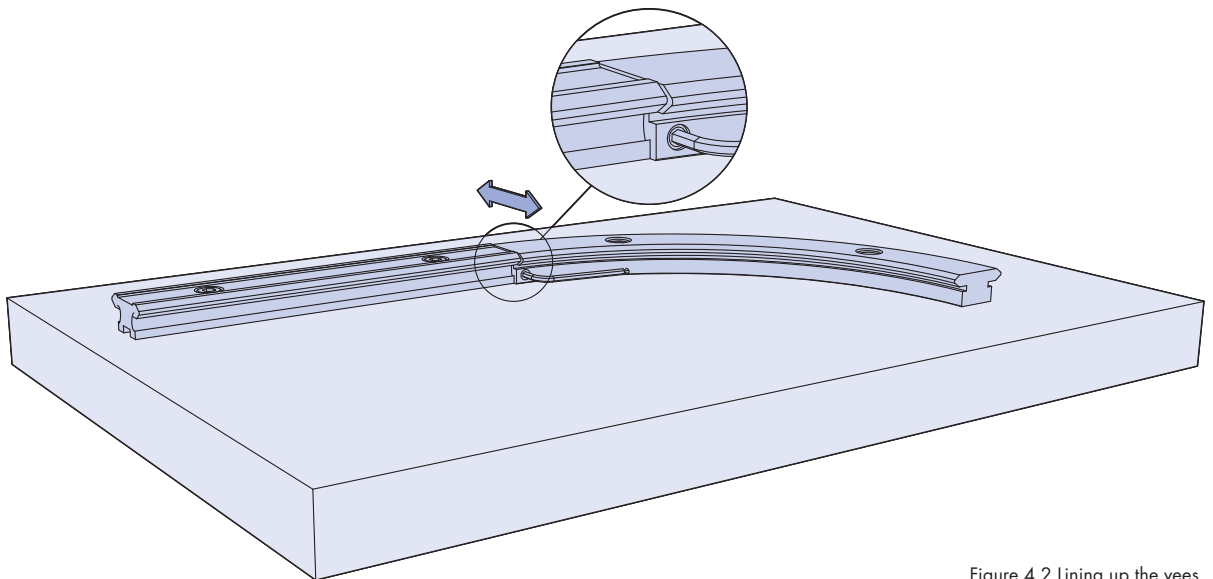

Figure 4.2 Lining up the vees.
4.2 Fine-tune the position of the ring by adjusting the jacking screws to centralise the two components and ensure that the vees are in line (figure 4.2).